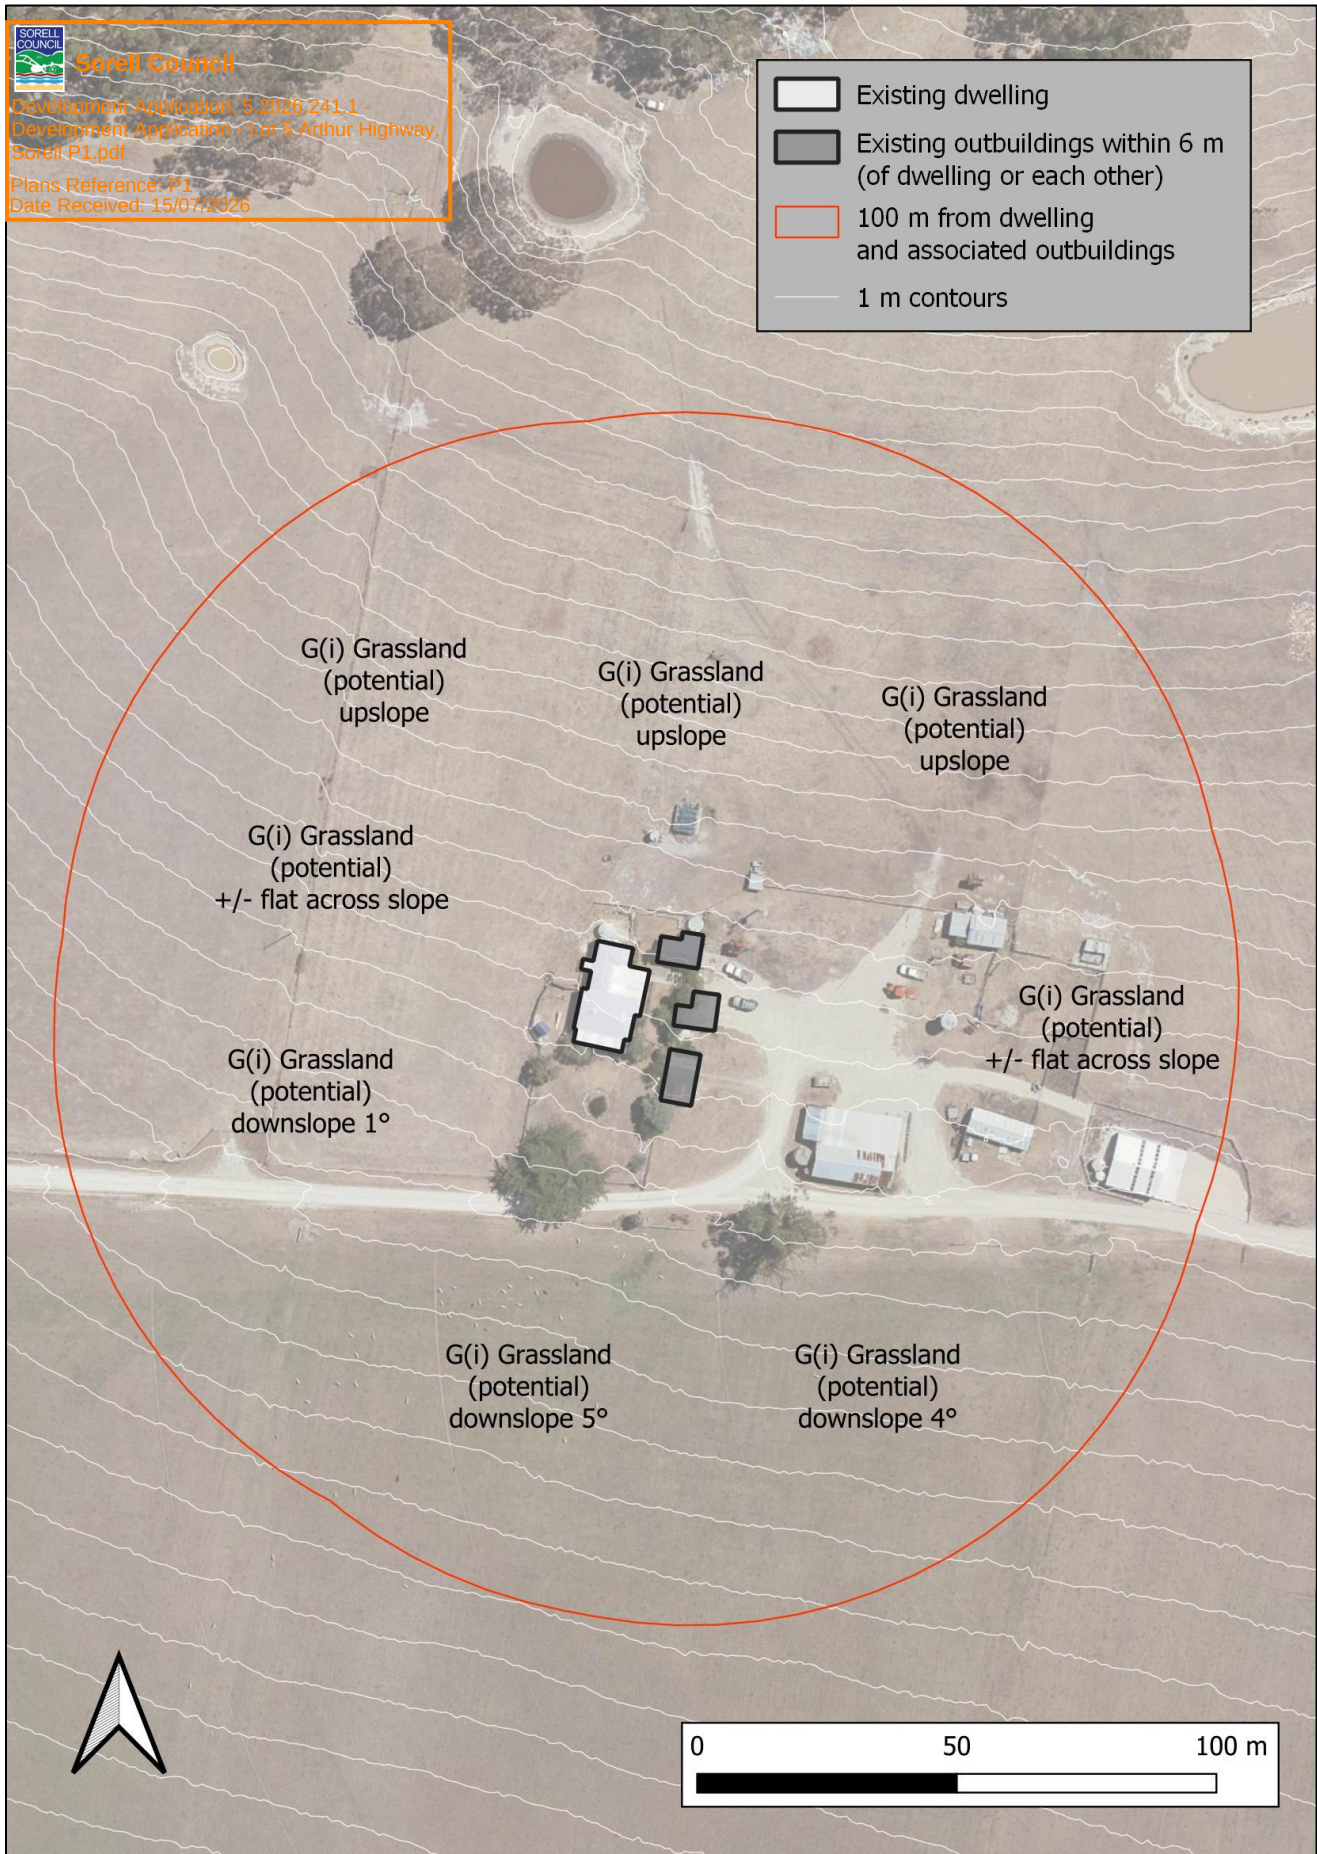

Figure 8 – Bushfire Hazard Assessment Map – existing dwelling on ‘Lot 7’
Refer to Figures 8 - 9 and Tables 1 – 4 for a summary of the Bushfire Hazard Assessment.
- The bushfire hazard assessment indicates that existing and future habitable buildings require HMAs to provide separation distances from bushfire prone vegetation sufficient to meet the requirements of BAL-19 under Table 2.4.4 of AS3959 (see Figures 8 and 9 and Tables 1 - 4).